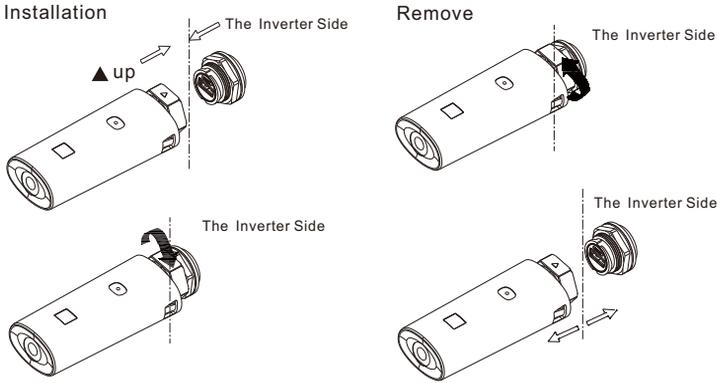

Fig 6.8B
- 3> As shown in Figure 6.8B, make sure that the Δ is facing upwards, insert the monitoring module into the USB interface, and tighten the lock.